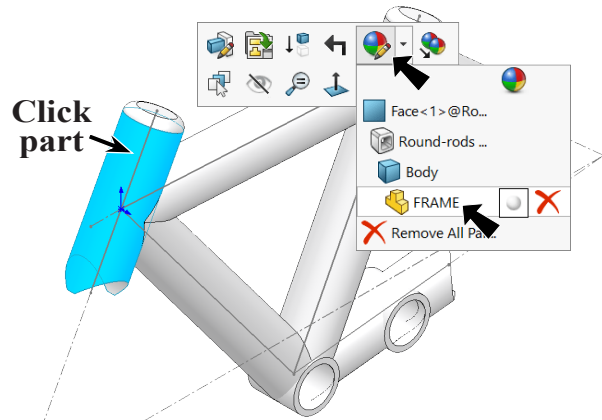

Fig. 57
Step 1. Click the part to select part, click **Appearances Callout**  on the context toolbar and click **FRAME** , Fig. 57.